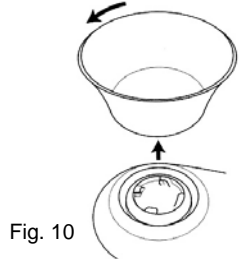

Fig. 10
2. To remove the mixing bowl from the stand, press down and turn the mixing bowl counter clockwise. The mixing bowl can now be detached from the turntable and lifted away. (Fig. 10)